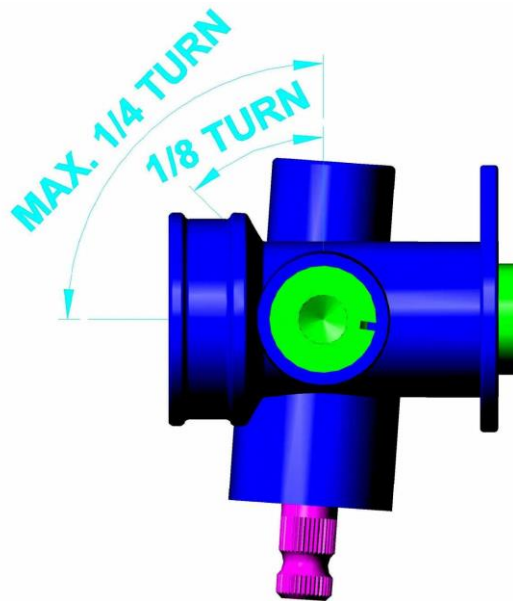

Figure 3 Direction to reduce Torque
4. Turn the plug 1/8 of a turn up to 1/4 of a turn maximum. See figure 3